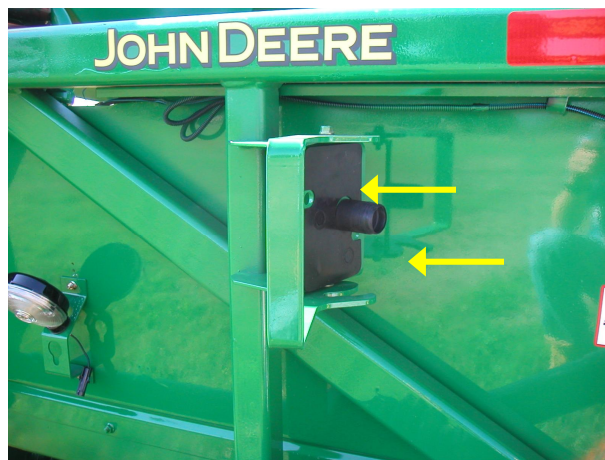

Figure 3
2. Install rubber pad (***LAN-201010**) and rubber plug (***LAN-176288**). (See **Figure 3**)